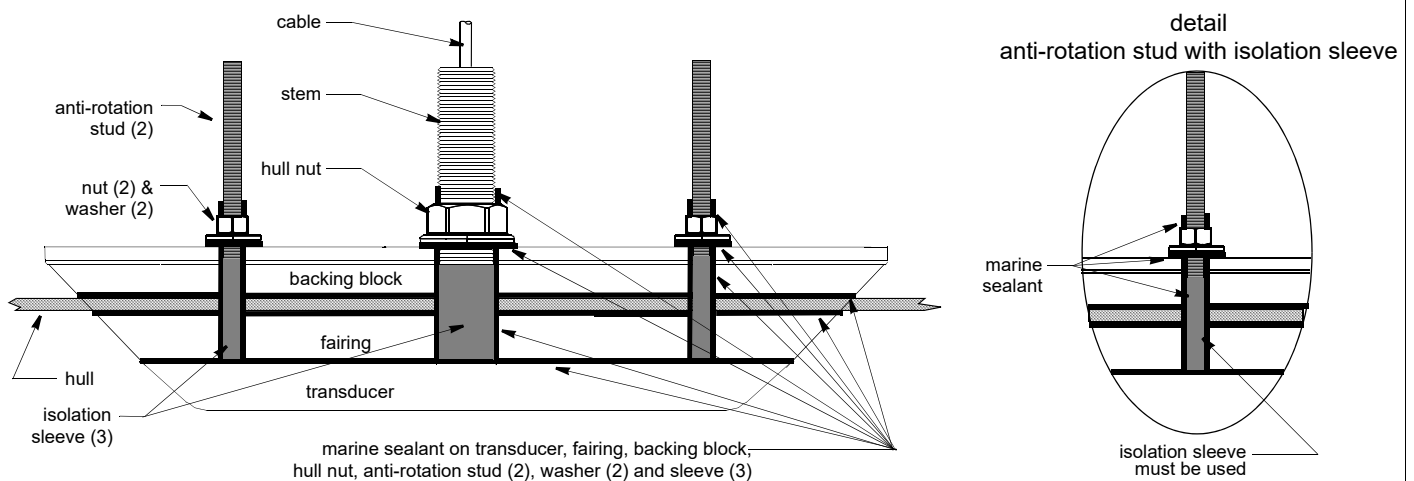

Figure 5. Bedding and installing with a fairing in a metal hull
5. Place the fairing on the table so the cutting guide rests against the fence. The arrow will be pointing *toward* you for installation on the starboard side of the boat or *away* from you for installation on the port side (Figure 5).